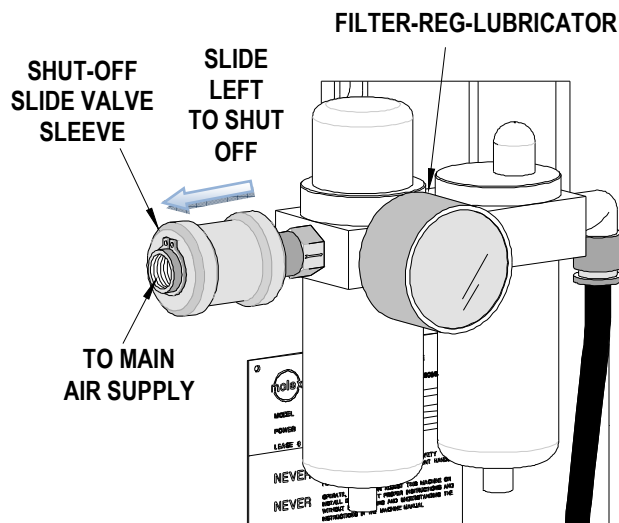

Figure 3-2
2.4 Pneumatic Supply Hook-Up (See Figure 3-2 and 3-3)
10. Disconnect the air supply to with the press by sliding the shutoff valve sleeve to the left as shown in Figure 3-2. Remove the plugs from the fittings on the air valve. Do not discard the plugs; when the air applicator is not being used, the fittings should be plugged.
**Note:** When not using an air feed applicator always shutoff the air supply to the filter-regulator-lubricator by sliding the shutoff valve sleeve to the left, the opposite direction of the airflow, as shown in Figure 3-2.